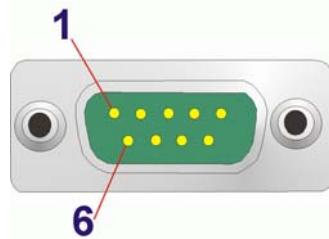

Figure 3-29: Serial Port Pinout Locations
**CN Pinouts:** See Table 3-30 and Figure 3-29